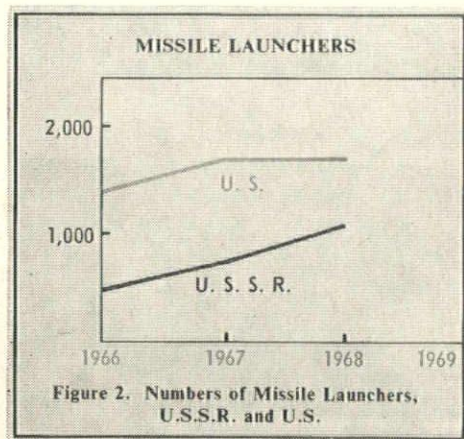

Figure 2
3. U.S.S.R.'s launchers can, as a rule, loft much larger missiles than U. S. launchers can, thereby eroding numerical advantage (Figure 2).